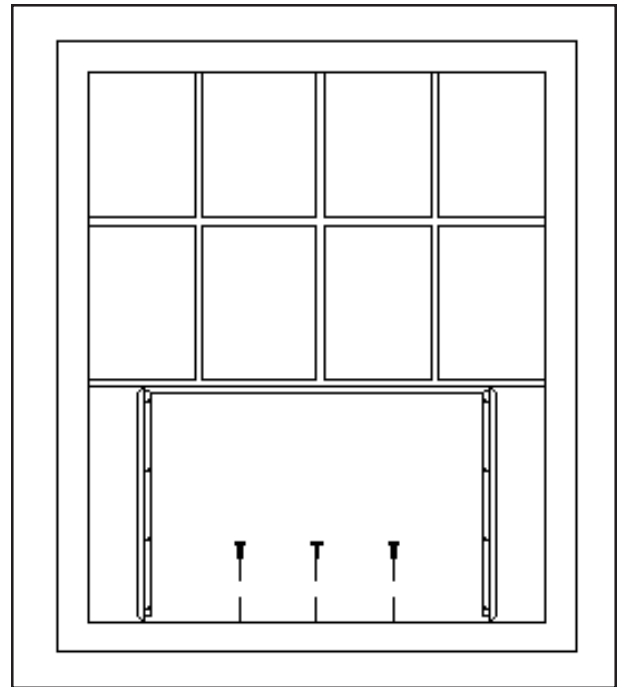

FIGURE 7
- E.) Center outer cabinet in window opening and slide in so bottom flange is flush against windowsill. Secure cabinet to windowsill through holes provided in cabinet bottom. Use appropriate fasteners (not provided) for type of material you are securing into. (See Figure 7).